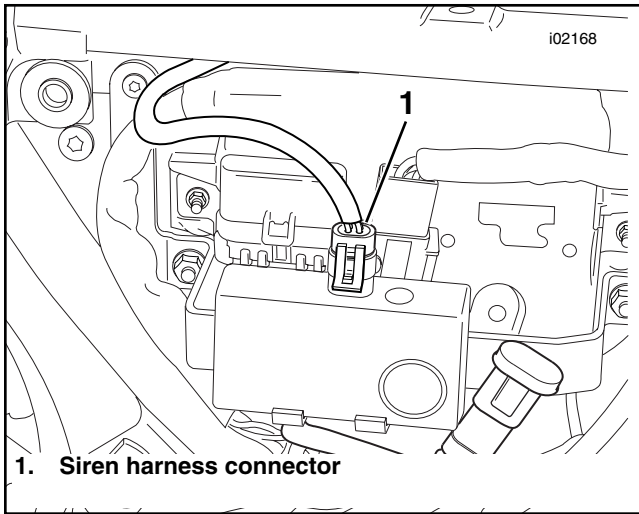

Figure 13. Disconnect Siren Harness Connector (2001 and earlier Models)
8. See Figures 13 and 14. Disconnect the siren harness connector from the siren (if equipped).